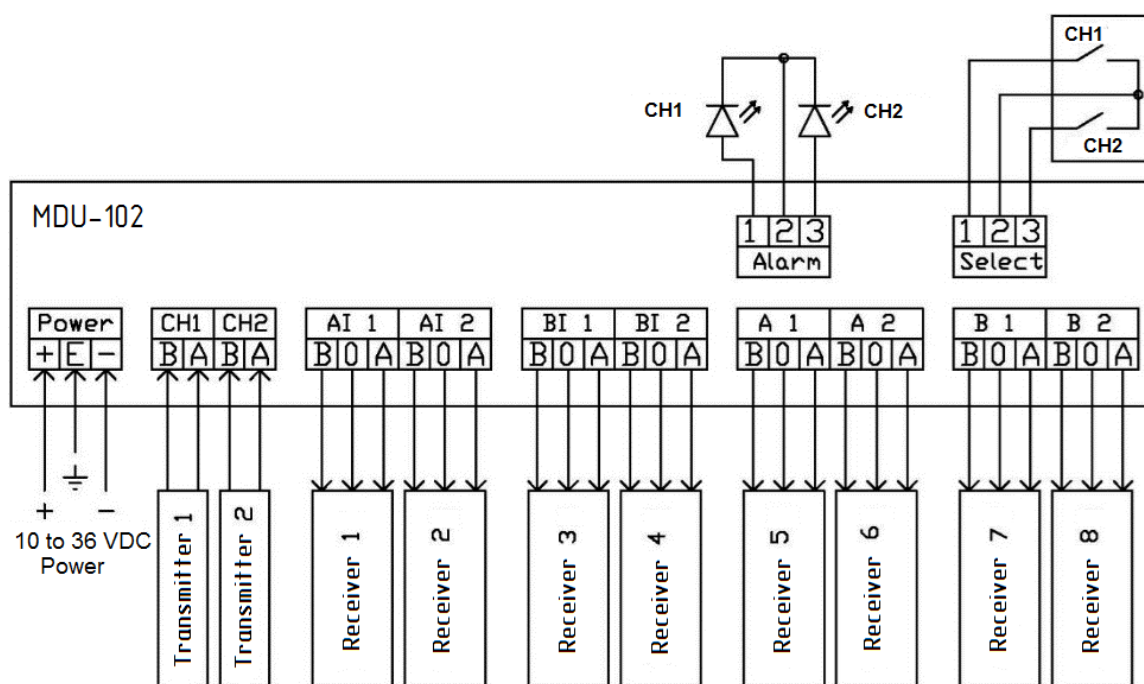

Figure 2 – RS-232 and (or) RS-422/485 connection diagram
1.3.2 The Product connection via RS-232 and (or) RS-422/485 interfaces is shown in Figure 2. Assignment of port terminals is represented in Table 3.